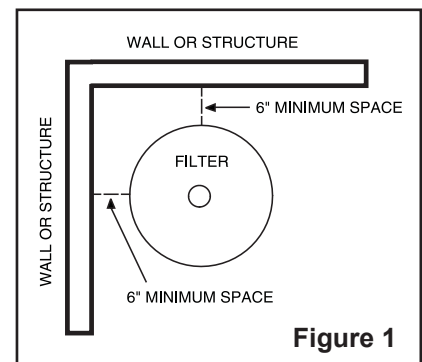

Figure 1
3. Allow sufficient clearance around the filter to permit visual verification that the lock ring is properly installed around the tank flanges, see **Figure 1**.